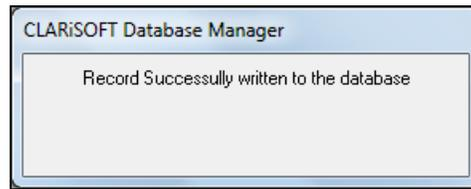

Figure 10-5: Confirmation
- Click *Save*. The confirmation window appears (Figure 10-5).